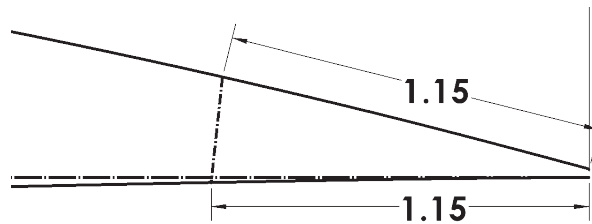

Fig. 31
Step 18. Click **Smart Dimension**  (S) on the Sketch toolbar.
Step 19. Add dimensions, Fig. 31.